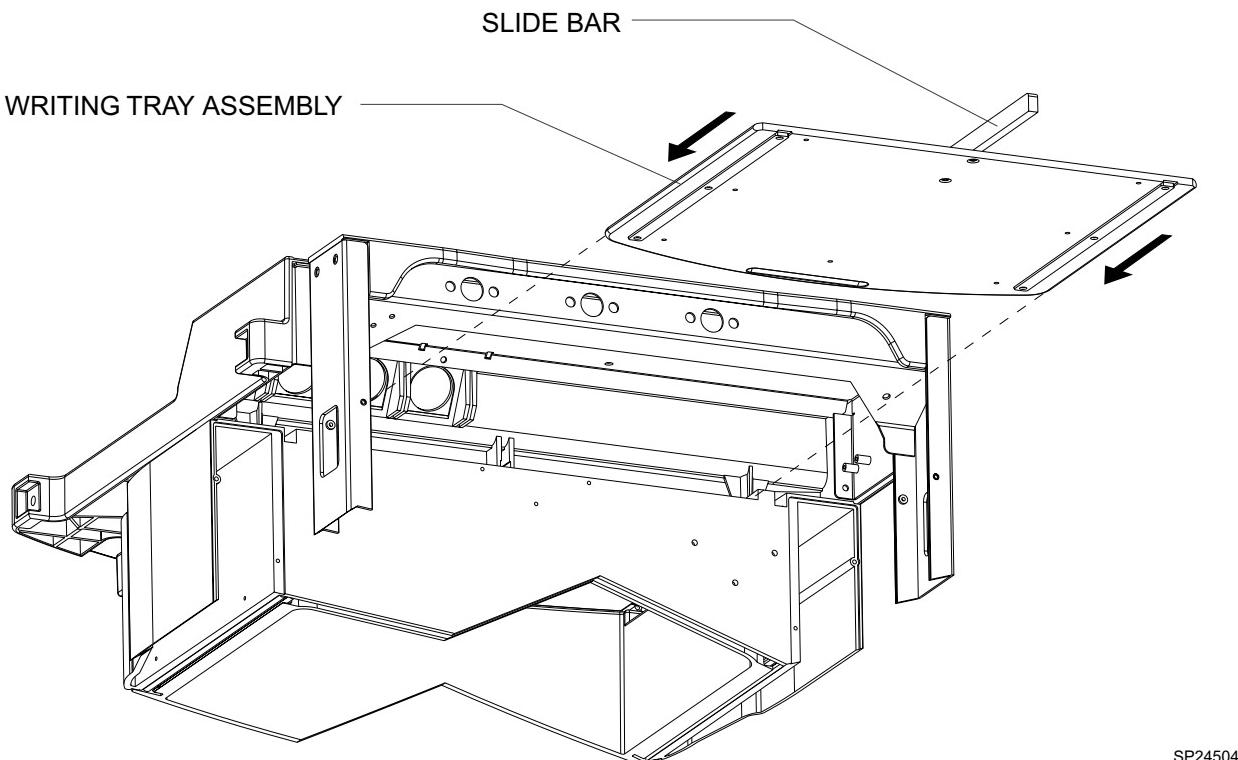

FIGURE 4. Installing the Writing Tray
7. Slide the tray assembly (4117100) into the back of the machine where shown in Figure 4. As you continue to push the tray in, make sure the slide bar on the tray is aligned in the center channel.